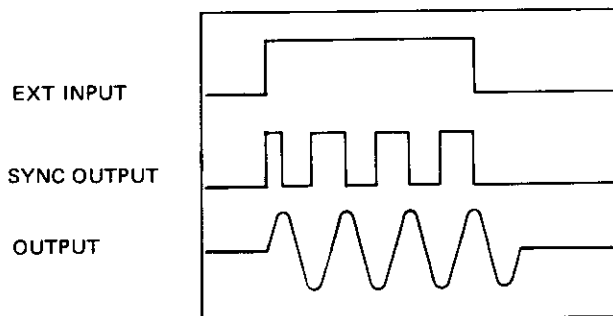

Figure 4-9. Example of correct gate operation
4. Set 8116A to GATE mode. Verify that each positive gate releases a burst of output cycles and that each cycle is complete (Figure 4-9).